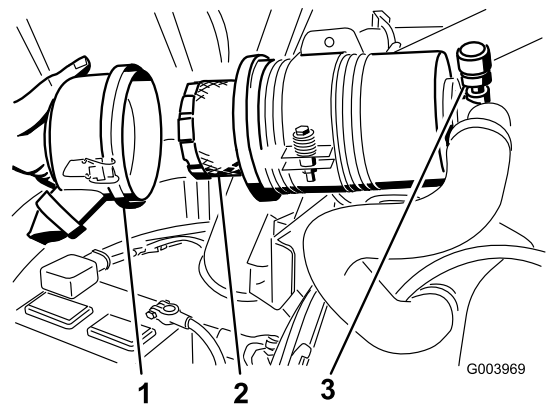

Figure 60
3. Remove and replace the filter (Figure 60).